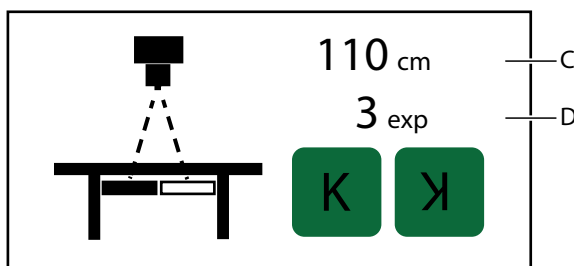

Fig. 4-37 Left and Right Limits Set
- When both limits have been defined, the total length of the composite image (**C**), see **Fig. 4-37**, and the number of exposures (**D**) are shown.